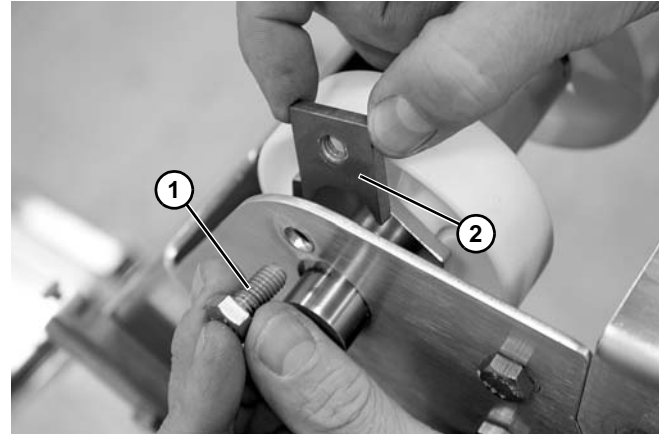

Figure 125
3. Remove bolt (**Figure 125, item 1**) and shaft retainer (**Figure 125, item 2**) for upper shaft assembly. Repeat for the other side.